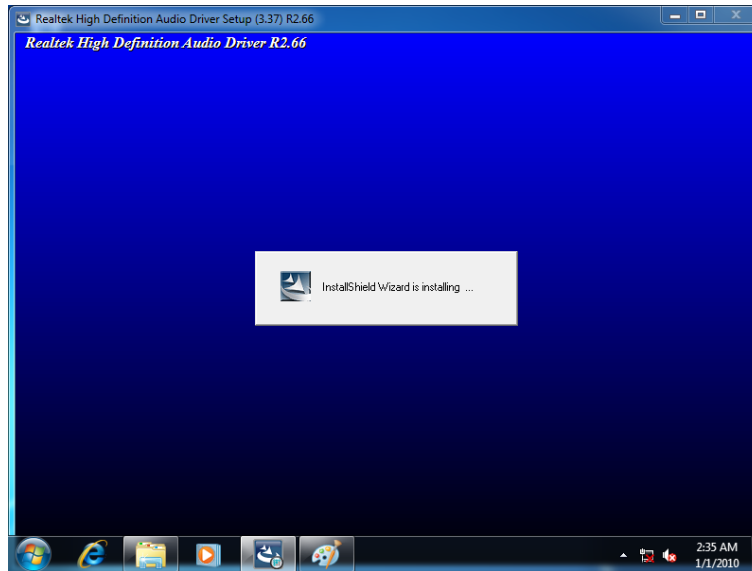

Figure 6-15: Audio Driver Installation
Step 7: The program begins to install. See **Figure 6-15**.